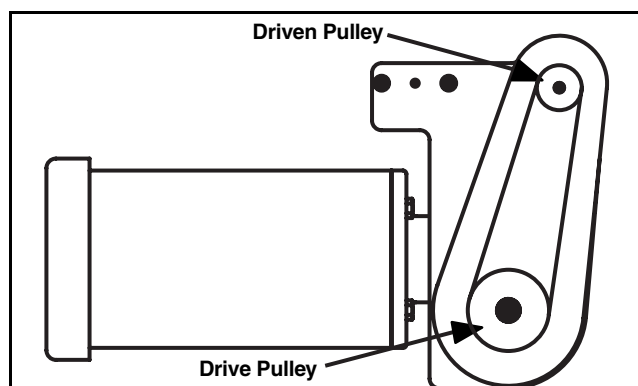

Figure 2
2. Determine the pulley kit ratio. Count the number of teeth on the drive and driven pulleys following figure 2. Using table 5, look up pulley ratio based on pulley combinations.